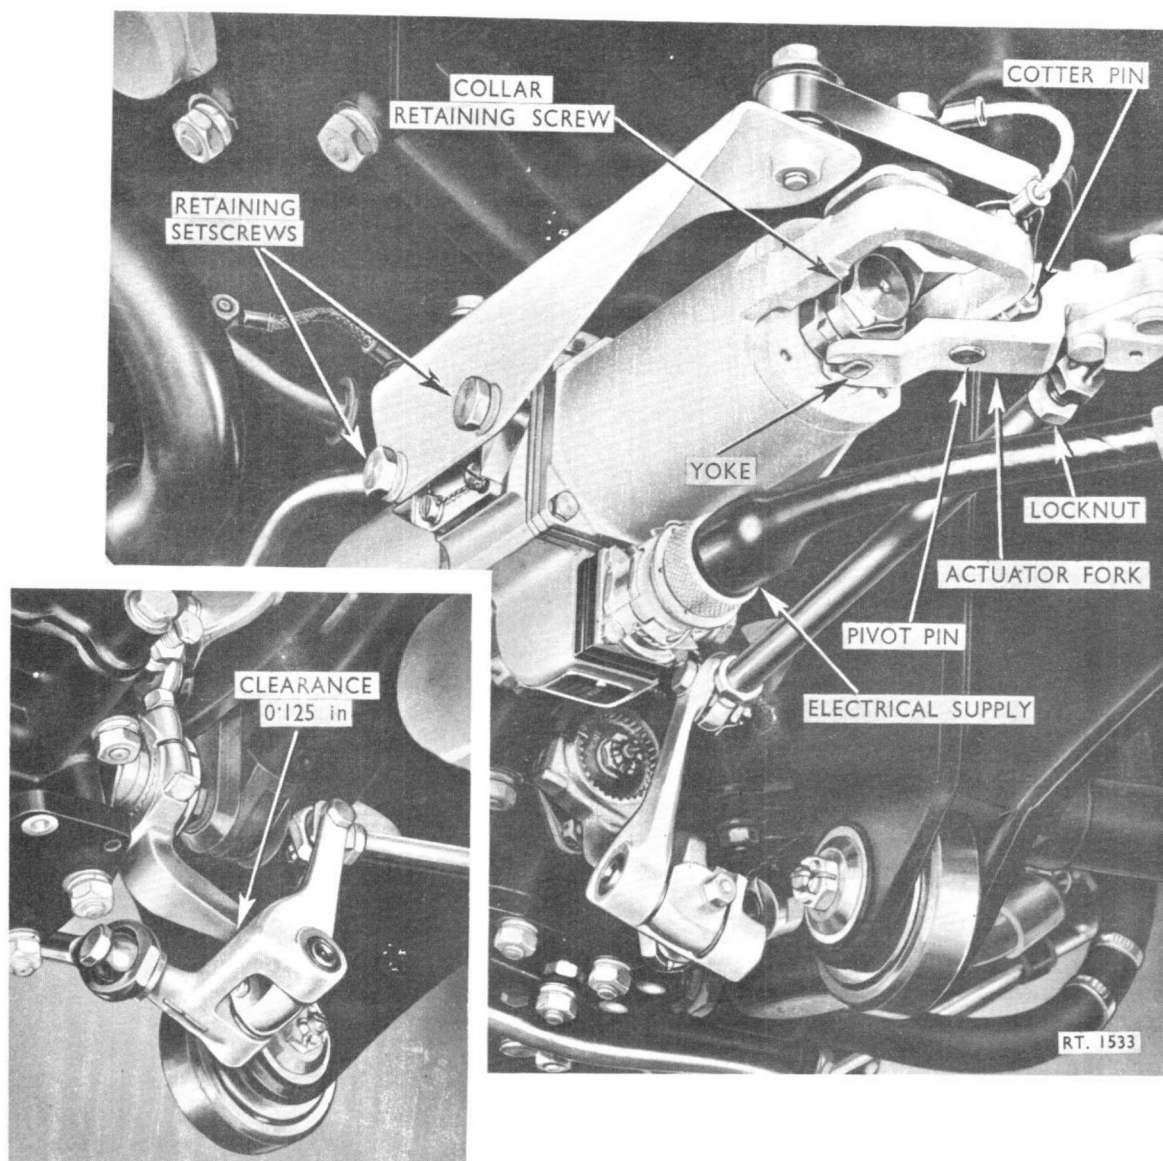

Fig.9 Top temperature control
45. The top temperature control actuator (fig.9) is mounted forward of the throttle valve and connected to it by a rod and levers.